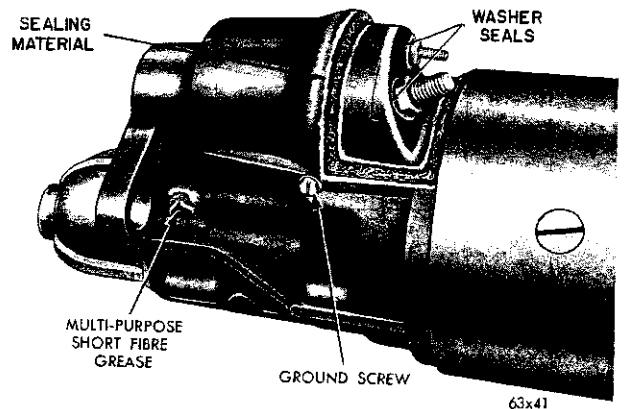

Fig. 45—Sealing the Brush Holder Plate
(25) Install the thrust washer (fibre) and washer (steel) on the armature shaft.
(26) Position the starter end head assembly and install the starter frame screws and lockwashers. Tighten the screws securely.
(27) Install the starter gear housing dust cover. Make sure the dimples on the cover are securely engaged in the holes provided in the gear housing.
(28) Install the ground screw in the gear housing.
(29) Clean the area at the joint between the brush holder plate to field frame and gear housing mating joint. Apply a bead of brush plate sealer MoPar Part No. 2421847 around the four sides of the joint (Fig. 45).